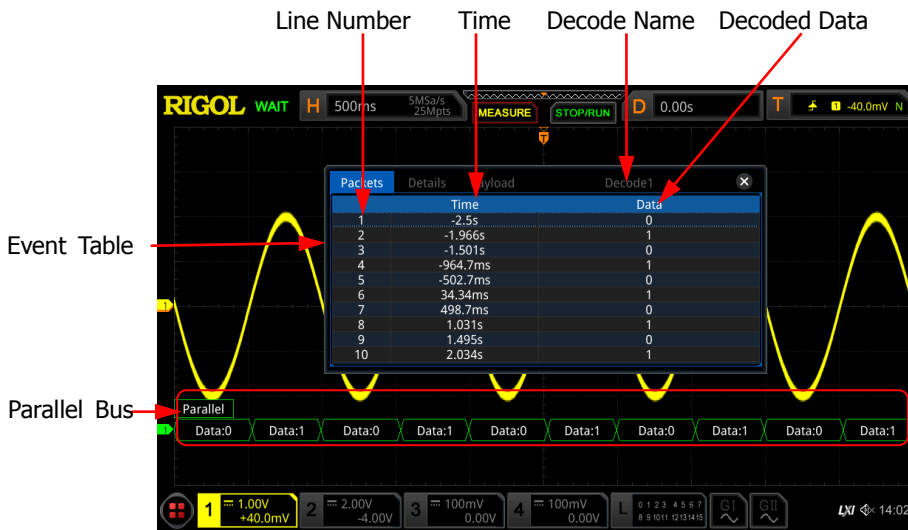

Figure 12-2 Parallel Decoding Event Table
- Open or close the event table: Press **Event Table** continuously to enable or disable the event table. When you enable the event table, the following figure is displayed, as shown in Figure 12-2. You can also enable the touch screen to tap the icon  at the upper-right corner of the table to close the event table.